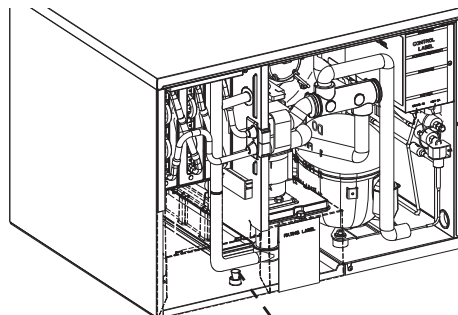

Fig. 22
- 13) Remove the front insulation panel, then remove the water tank drain plug located in the bottom of the water tank. See Fig. 22. Allow the water tank to drain.